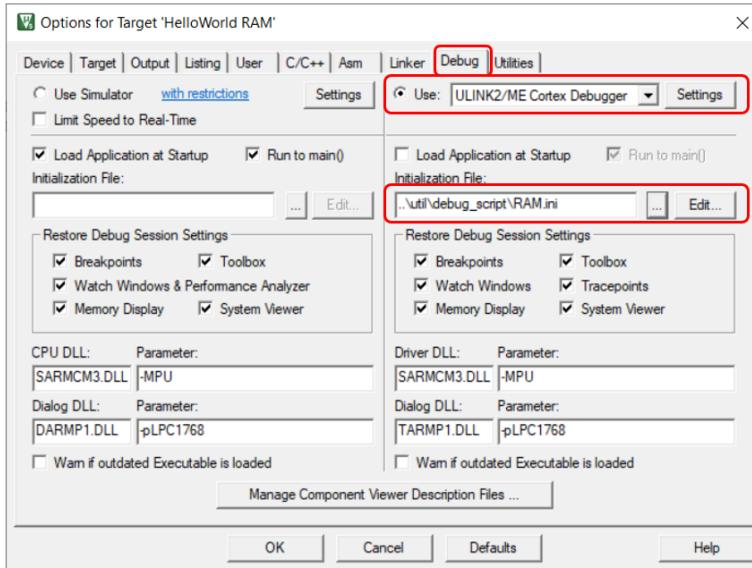
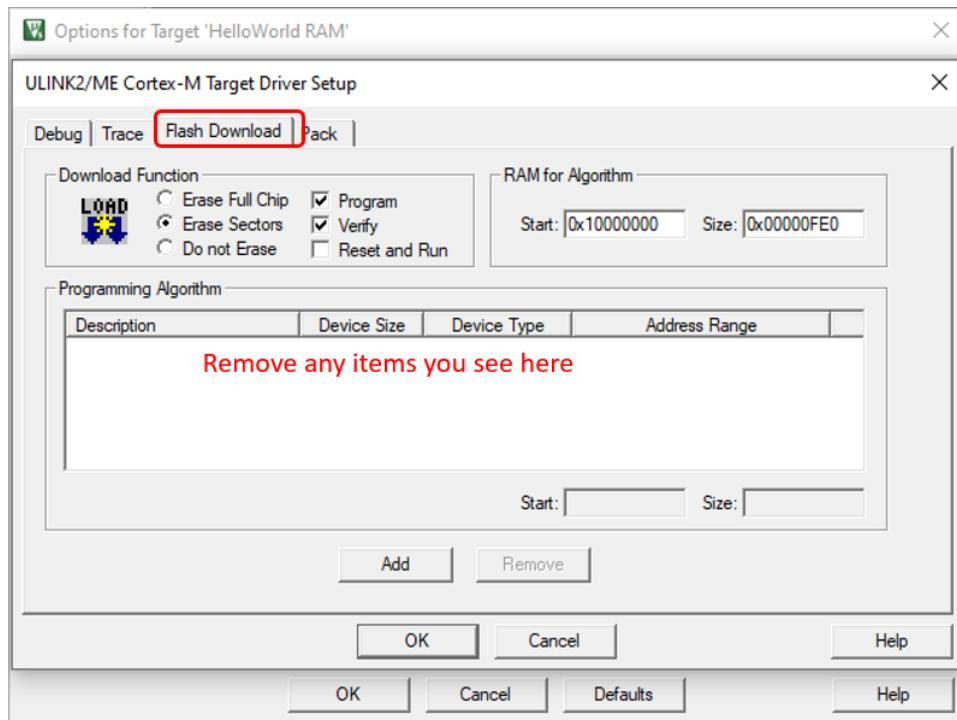

Figure 8.30: Keil IDE: Configure ULINK-ME Hardware Debugger.
Figure 8.31: Keil IDE: Flash Download Programming Algorithm Configuration.
5. Select the ULINK2/ME Cortex Debugger in the target options Debug tab and use an debug script RAM.ini provided in the starter code (See Figure 8.30) as a initialization file. An initialization file RAM.ini (see Listing B.2 in Appendix B) is needed to do the proper setting of SP, PC and vector table offset register.
6. Press the settings button beside the ULINK2/ME Cortex Debugger (see Figure 8.30) and select the Flash Download tab (see Figure 8.31). Remove the LPC17xx